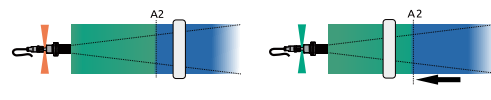

Figure 17 - Single trigger on approaching object
- The output signal switches when the object approach distance (S) is smaller than the adjustment distance (A2). The operating principle is shown in Figure 17. A user-wide setting must be implemented for operation: A2 = S, A1 = ∞.